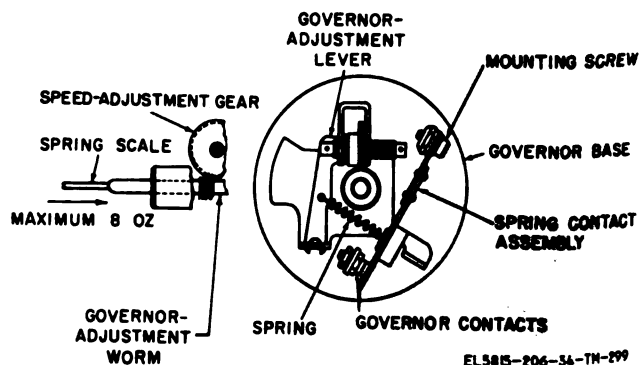

Figure 3-227. Motor-governor contacts alignment (TT-4 (\*)/TG and TT-698 (\*)/TG ).
- (1) Visually check requirement (a (1) above).
- (2) Use a 6-inch steel rule to check requirement (a (2) above) visually.
**3-264. Motor-Governor Contacts Alignment (TT-4(\*)/ TG and TT-698(\*)/ TG) (fig. 3-227)**
- (1) The contacts should be centered and adjusted for maximum area of engagement.
- (2) A force up to 8 ounces should be required to turn the speed adjustment gear at any point within the operating range of the motor.